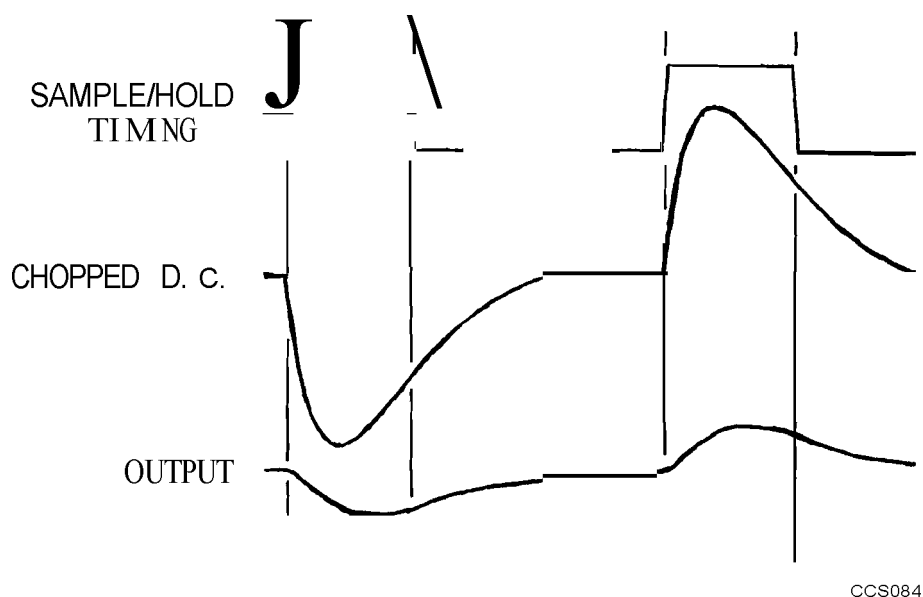

Fig. 3 Spike blanking
10. Spike blanking. The spike blanking circuitry, R114, C16 and IC3c, remove spikes that are generated on the leading and trailing edges of the chopped d.c. signal from the r.f. sensor (see Fig. 3). IC3c and C16 act as a sample and hold circuit. The hold period is from when the signal chopper changes state and lasts for a period of 180 μ s. R114 reduces errors caused by the hold time interfering with large signal levels at high r.f. power levels. IC4b acts as a high impedance buffer for the signal from the sample and hold.